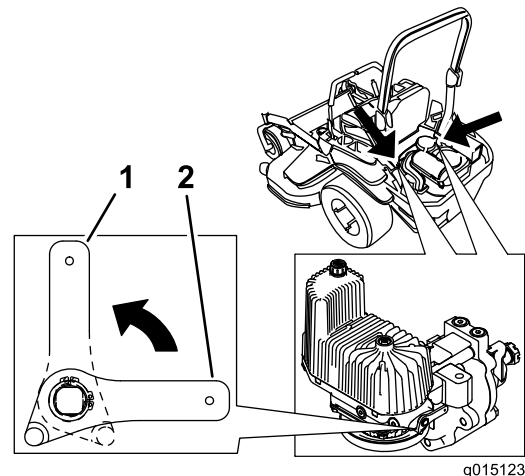

Figure 35
2. Rotate the release valve levers vertically to push the machine. This allows hydraulic oil to by-pass the pump enabling the wheels to turn (Figure 35).
4. Rotate the release valve levers horizontally to run the machine (Figure 35).